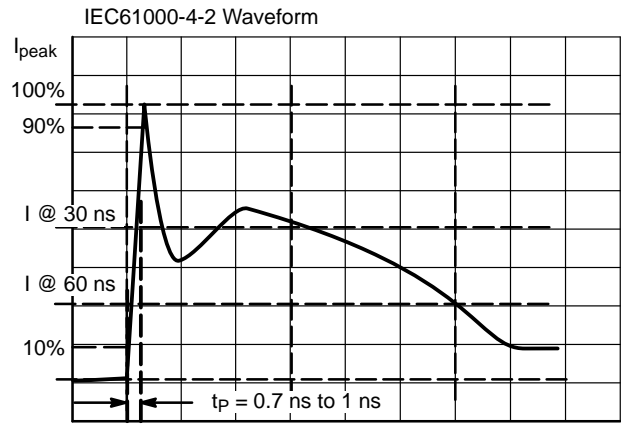

Figure 13. IEC61000-4-2 Spec
2. For test procedure see Figures 13 and 14 and application note AND8307/D.